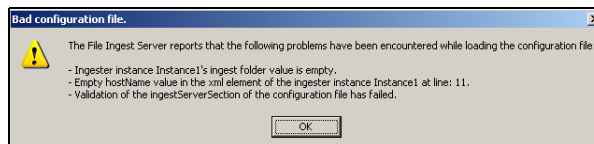

Figure 20-6. The default instance prompts a Bad configuration file error message
- The **Bad configuration file** error message (figure 20-6) may appear if an existing instance is not properly configured. For example, the File Ingest Control Panel initially contains only one default instance (*Instance1*) that has not yet been configured. In any case, click **OK** to proceed.